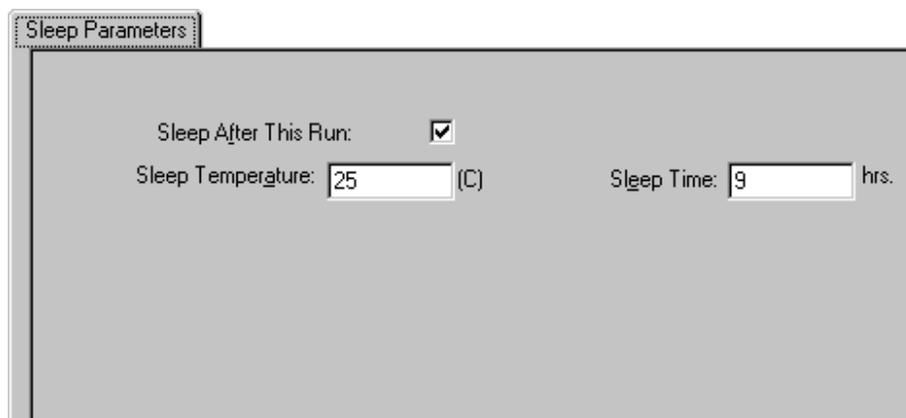

Figure 11-10. Sleep Parameters tab with Sleep After This Run selected.
1. In the **Sleep Parameters** tab of the Instrument Control window (figure 11-10), type the number of hours in the **Sleep Time** box.